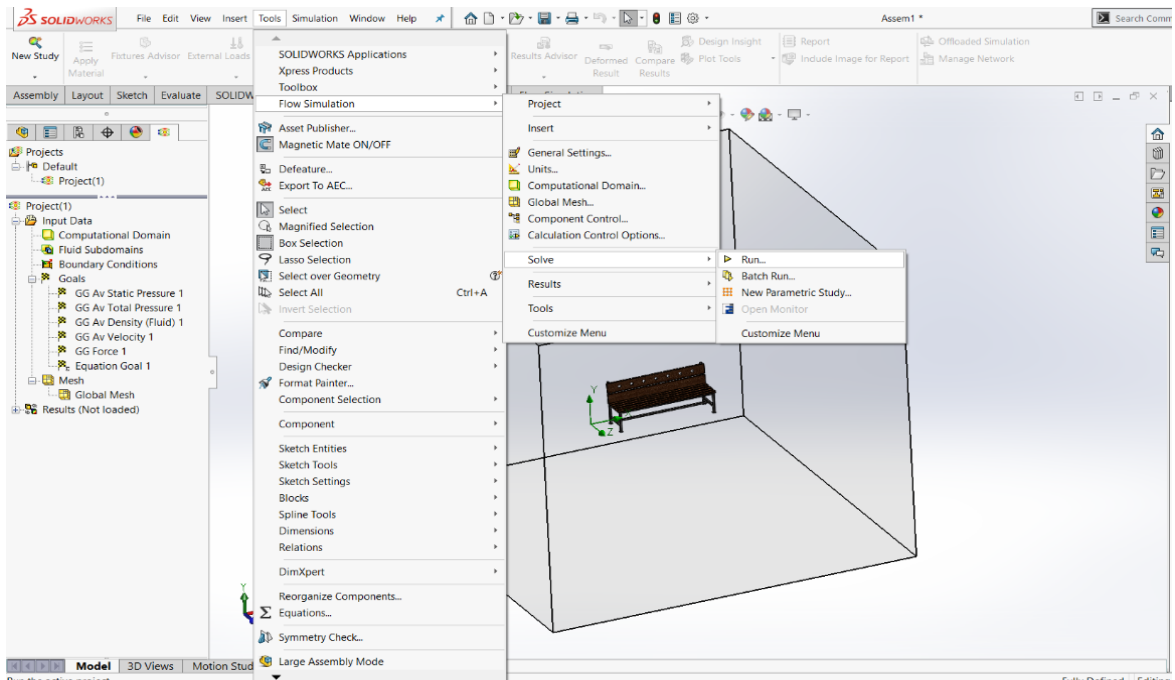

Figure 9: Running the Model
11. The next step is to run the simulation, by right clicking the Tools in the top of task bar, then select flow simulation-> select solve-> select Run (shown in the figure 9). After running the results, note down the reading in the results.